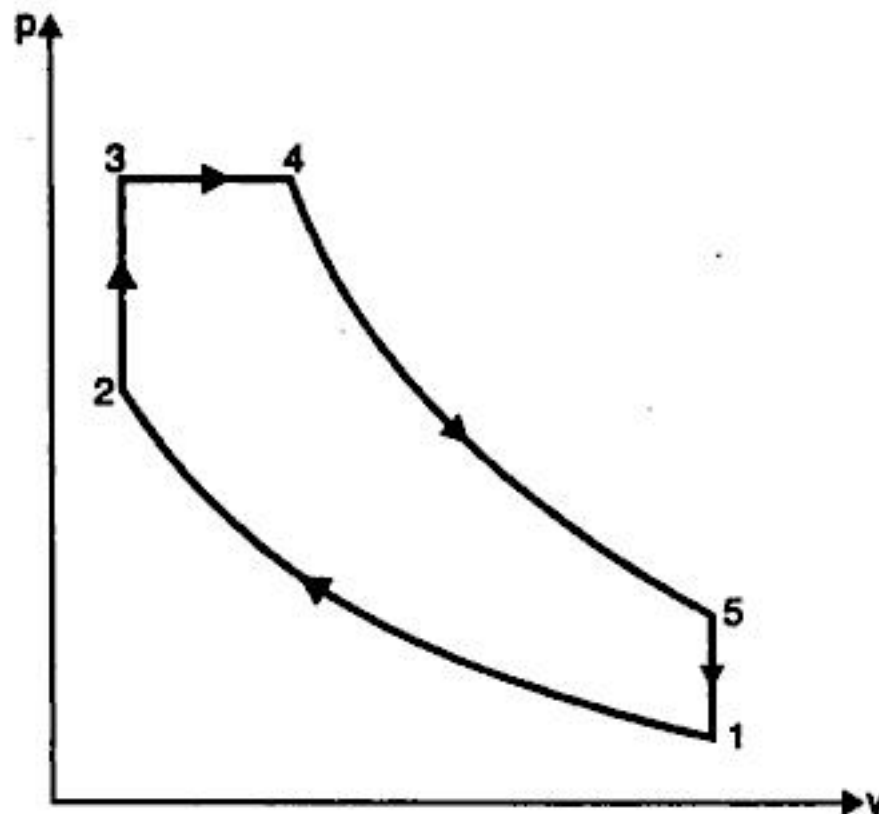

Fig. 3.23. Dual cycle.
**Solution.** Refer Fig. 3.23. Given :  $T_1 = 27 + 273 = 300 \text{ K}$  ;  $\frac{p_3}{p_1} = 70$ ,  $\frac{v_1}{v_2} = \frac{v_1}{v_3} = 15$